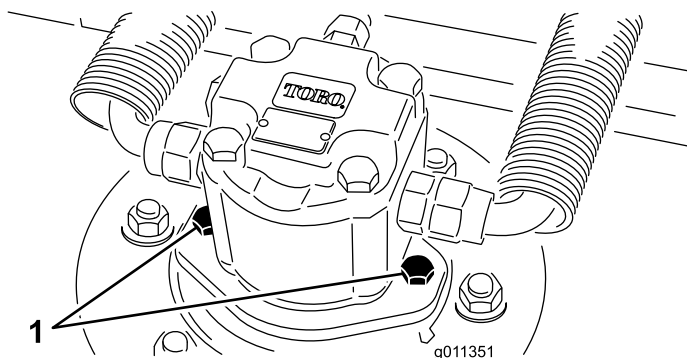

Figure 69
1. Disconnect and remove the hydraulic motor from the deck (Figure 69). Cover the top of the spindle to prevent contamination.
3. Install the hydraulic motor to the deck (Figure 69). Make sure that the O-ring is in position and not damaged.